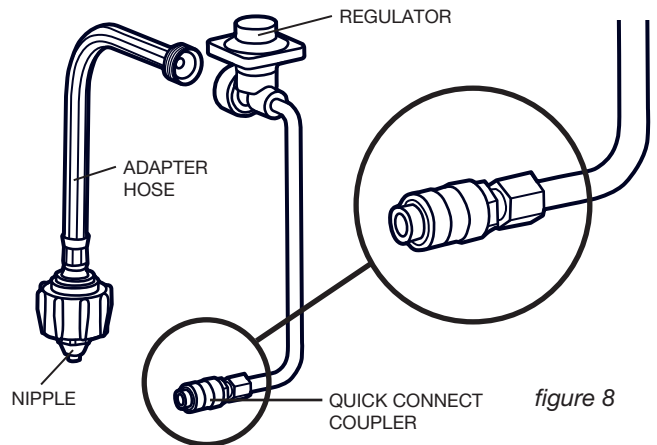

figure 8
2. While holding the regulator in one hand, push the adapter hose into the regulator and turn clockwise until tight. Pull the quick connect coupler back until it clicks, as shown in figure 8.